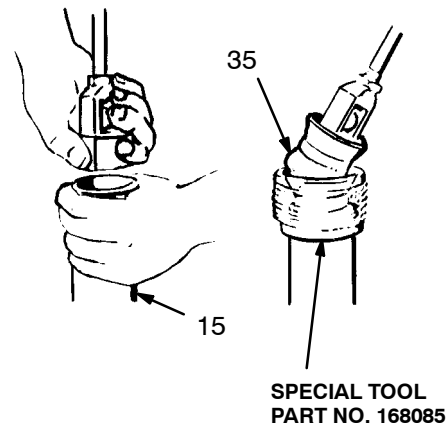

Fig. 4
7. A special assembly tool, Part No. 168085, should be used to install the piston assembly into the cylinder. This tool is made from 0.016 (0.41 mm) shim stock and helps protect the edges of the packings from damage during reassembly. Place the tool around the piston packings as shown in Fig. 4. Start the bottom packings (35) into the cylinder and then remove the tool.